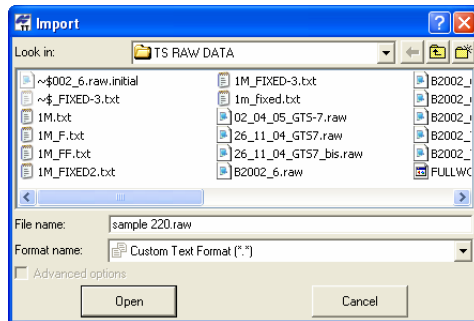

Figure 3-31. Import Custom TSRaw Format File
4. Set the desired *Advanced* options (Figure 3-31 on page 3-29): define the projection type, coordinate order, and type of vertical angle if known.